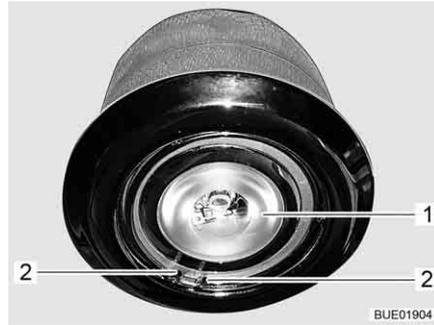

Fig. 240 Ceiling lamp
- Press together the ends of the clamping lever (Fig. 240,2) and remove it.
- Remove LED (Fig. 240,1).